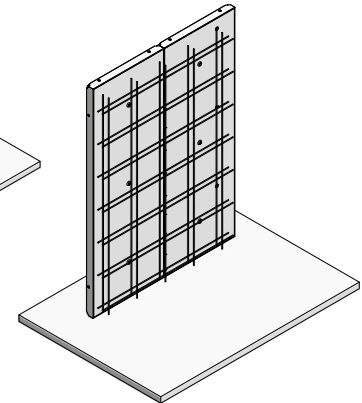

Fig. 20.2
2. Place initial-formwork panel (Fig. 20.1 and XT-4 and -5) and carry out boxout work (Fig. 20.2).